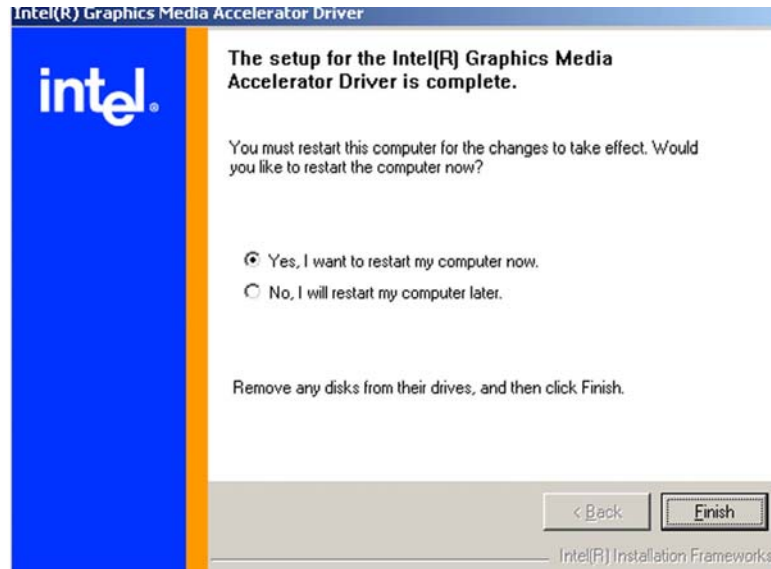

Figure 7-16: GMA Driver Installation Complete
Step 11: A confirmation screen shown in **Figure 7-16** appears.
Step 12: After selecting when to restart the computer in **Figure 7-16**, click **FINISH**.